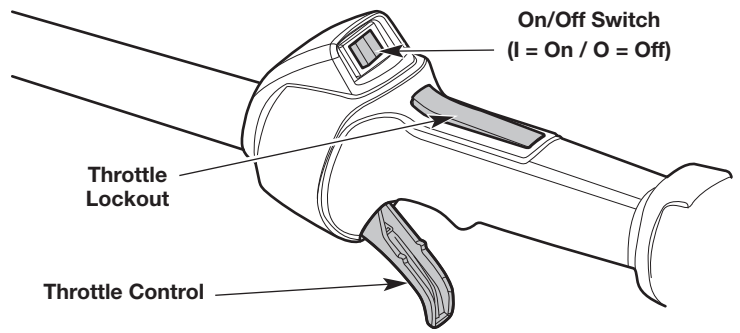

Fig. 14
NOTE: There is no need to turn the unit on. The On/Off switch is in the **On (I)** position at all times (Fig. 14).
NOTE: **DO NOT** squeeze the throttle control until step 8 (Fig. 14).
8. Press and hold the throttle lockout (Fig. 14). Squeeze the throttle control as needed for operation (Fig. 14).
2. Press and hold the On/Off switch in the **Off (O)** position until the engine comes to a complete stop (Fig. 14).
10. Press and hold the throttle lockout (Fig. 14). Squeeze the throttle control as needed for operation (Fig. 14).